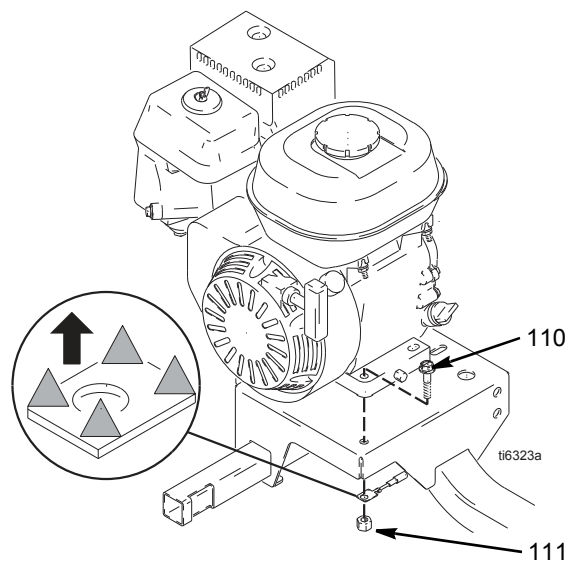

FIG. 13
3. FIG. 13. Remove two locknuts (111) and screws (110) from base of engine.
2. FIG. 13. Install two screws (110) in base of engine and secure with locknuts (111). Torque to 20 ft-lb (27.12 N·m).
2. Fig. 13. Remove two screws (108) and open cover (62a).